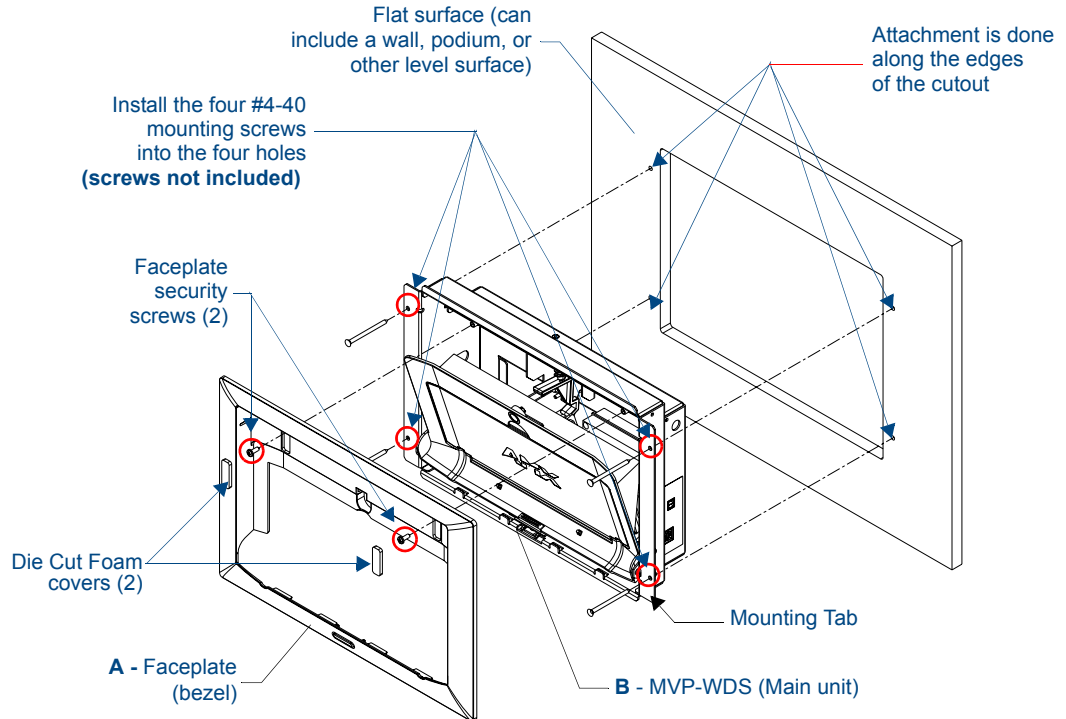

FIG. 14 MVP-WDS installation configuration for solid surfaces
6. Carefully insert the main unit into the cutout until the Mounting Tabs on the MVP-WDS lie flush against the wall (FIG. 14).